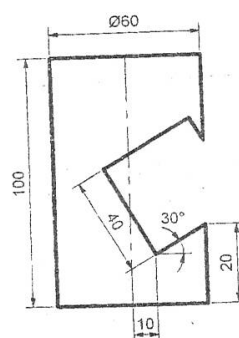

Fig 7 Q-6(a)
a) Fig.7 shows a cylinder having a square hole cut in it. Draw the development of lateral surface.